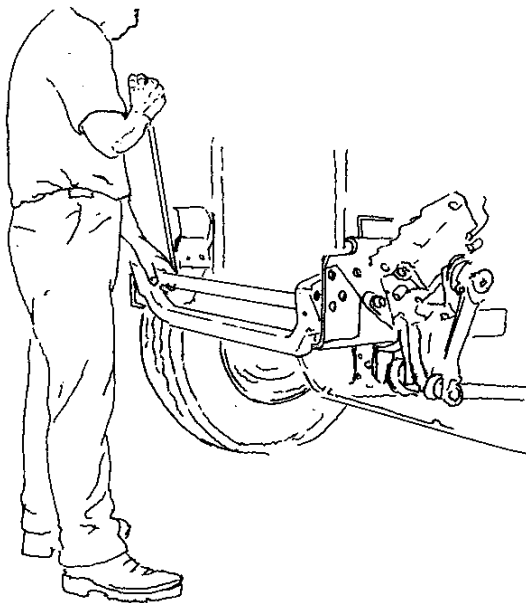

Figure 5 Remove Front Cross-member
4. Using a pry bar (Figure 5), loosen and remove the cross-member assembly.